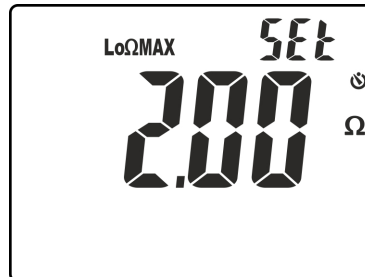

Fig. 26: Setting the limit threshold for continuity test
4. Press keys **▼/☼** or **▲/ZERO** to select the value in the range: **0.05 Ω ÷ 9.99 Ω** (see Fig. 26).
4. Press keys **▼/☼** or **▲/ZERO** to select the value in the range: **0.05Ω ÷ 9.99Ω** (see Fig. 26).